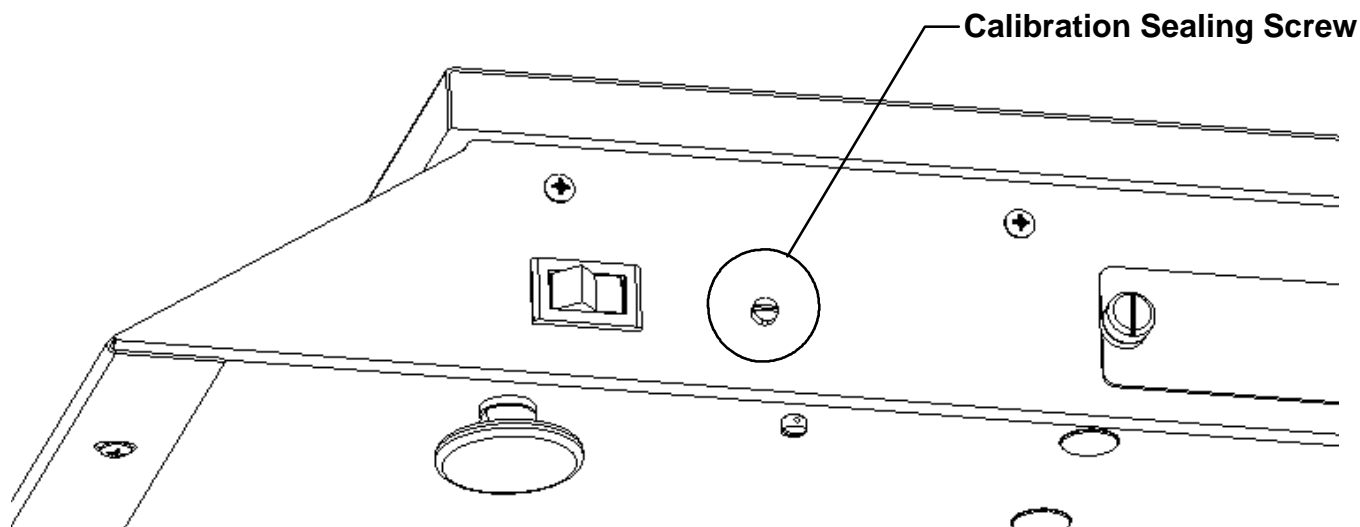

Figure No. 7
1. With the scale power off, remove the calibration sealing screw on the right side panel, see Figure No.7.
2. With the screw removed, place the power switch in the ON position. The scale will perform a brief lamp test. This test consists of illuminating all display segments and annunciator LED's for approximately three (3) seconds to allow the operator to make a visual verification that the display is operational. After completion of the lamp test, the scale will display the model number and software revision level, then the weight display will change to **SCALE**.